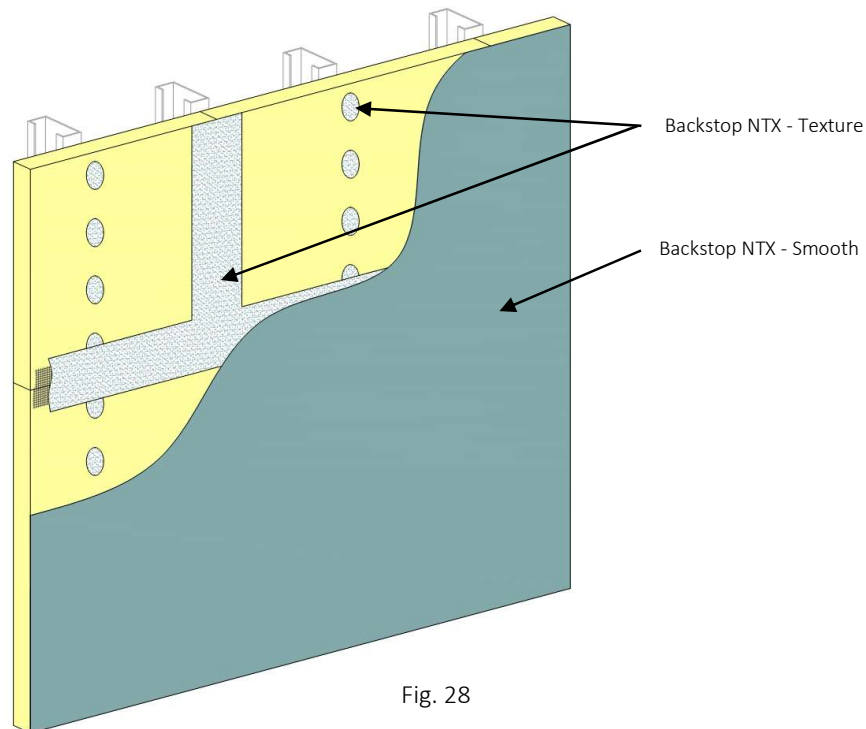

Fig. 28
- a. General: Dryvit Backstop NTX – Smooth can be applied using a roller or sprayed and back-rolled over the acceptable sheathing substrates. **NOTE: OSB sheathing requires that joint and fasteners be treated with Backstop NTX – Texture. A minimum of two (2) coats of Backstop NTX – Smooth are required for the field of the wall. Backstop NTX – Texture is not recommended for application in the field of the board.**
- 2) Backstop NTX – Smooth material should be applied in a uniform, continuous film at the recommended coverage rate – **Figure 28**. **NOTE: Sheathing substrates with a surface texture or high porosity will require additional material.**